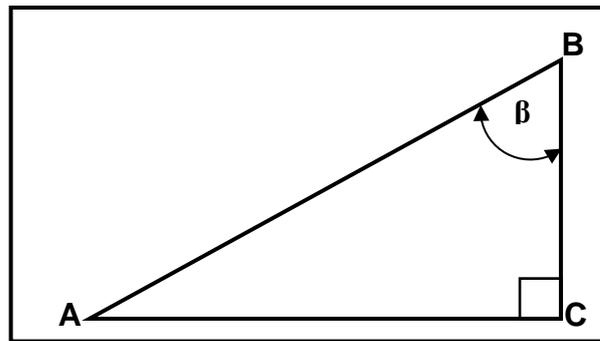

FIGURE 4.14
4.14 What formula would you use to calculate $\sin \beta$ in **FIGURE 4.14** below?